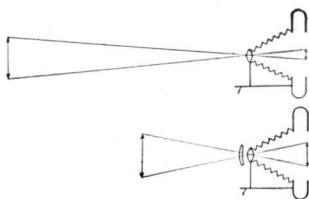

Figure 3. Portra Lens: for close-ups at normal lens-to-film distance.
1. When used with cameras which otherwise cannot focus for subjects closer than  $3\frac{1}{2}$  or 4 feet, the focusing range is brought to about 10 inches (with the 3+ lens) and the field size thereby reduced to about 5 x 7 inches. (See Figure 3.) This permits copying and small-object photography. Such photography otherwise demands a considerably extended bellows.